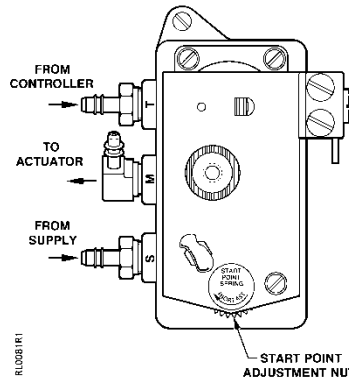

Figure 7. Start Point Adjustment.
4. Turn the start point adjustment nut clockwise (Figure 7) until you observe the movement of the actuator stem or shaft. Mark the start point with a pencil on the stem or shaft.